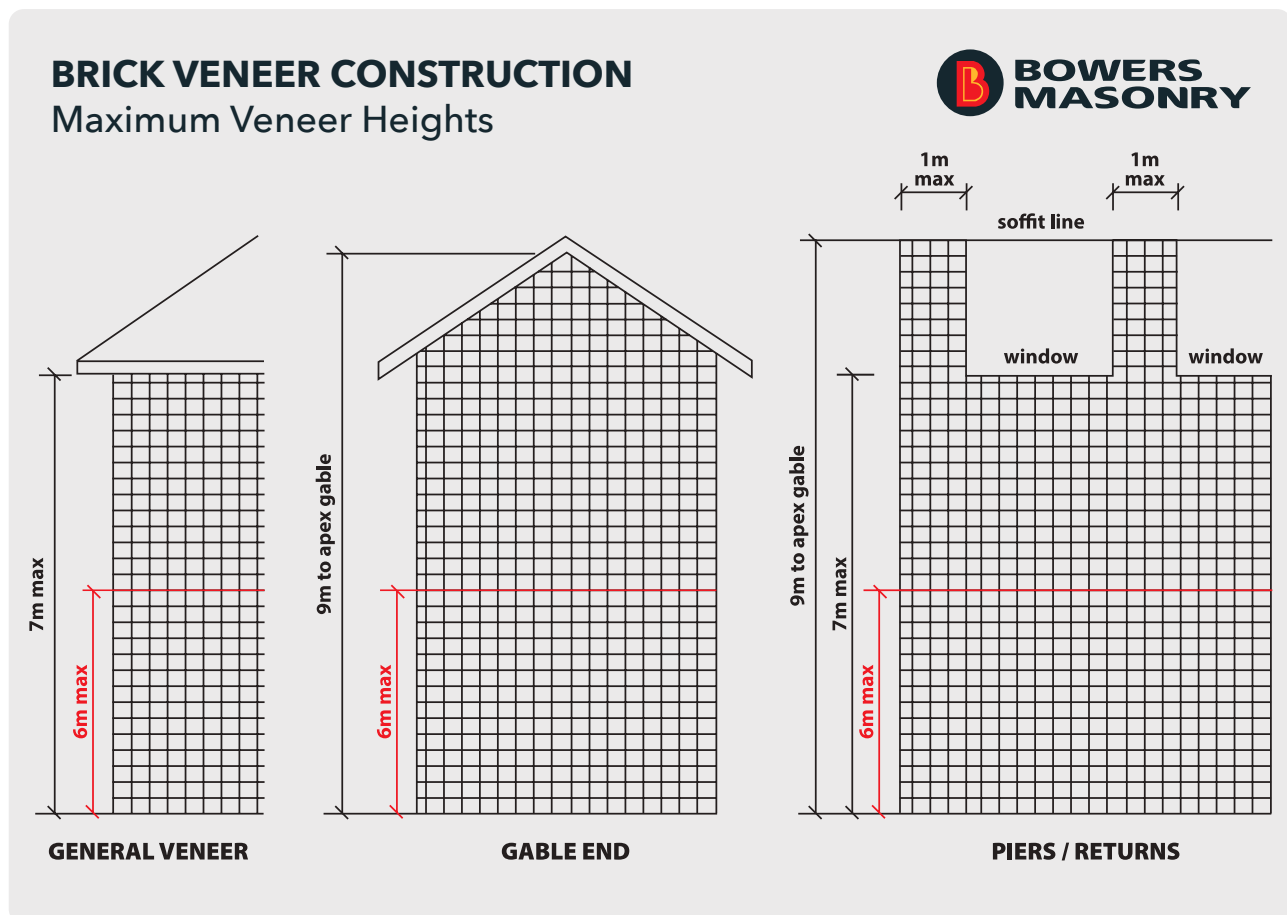

Figure 1 - Maximum Veneer Heights for three-storey stack-bonded construction
- Maximum veneer height of 10.0m for straight vertical panels and 12.0m to the apex of a gable or a pier as defined in this document, in accordance with Figure 1.